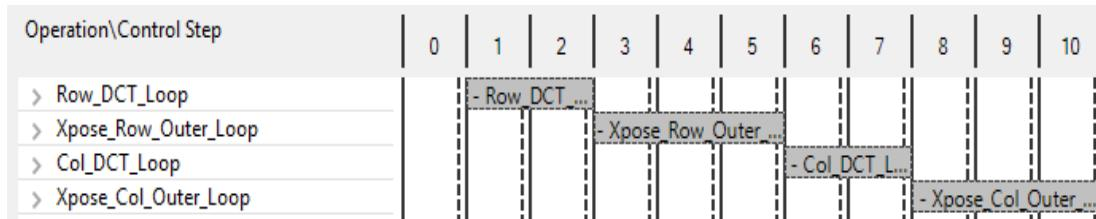

Figure 6-10: DCT_2D Performance View
6. In the Module Hierarchy pane, click the function **dct_2d** to navigate into the view for this function (Figure 6-10).
In the Performance Profile you can see that the latency of all the loops has been substantially reduced (Row_DCT_Loop and Col_DCT_Loop have been approximately halved from the earlier report in Figure 6-10). However, the majority of the latency is still due to these two loops, each of which calls the `dct_1d` block.